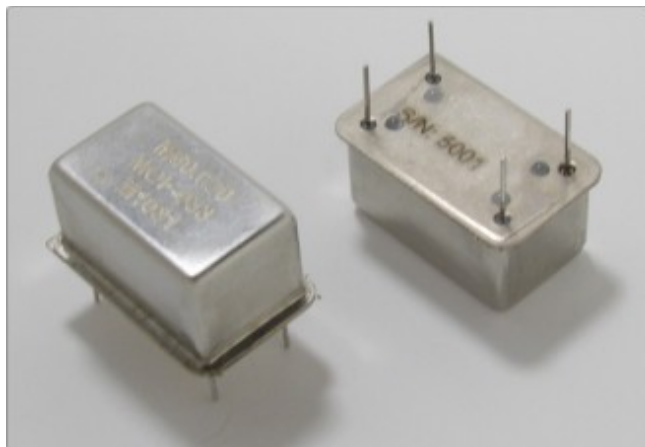

Figure 18: An Oven Controlled Clock Oscillator (or OCXO) with sub-ppm frequency stability is available for the PulseBlasterESR-PRO upon request.
1. Oven Controlled Clock Oscillator (sub-ppm stability) shown in Figure 18. For ordering information, please visit <http://spincore.com/products/OCXO/> or contact SpinCore at <http://www.spincore.com/contact.shtml>.